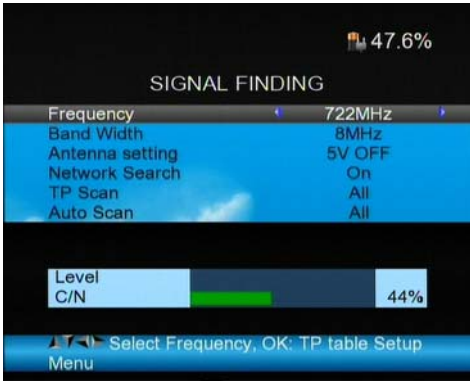

Figure3. SIGNAL FINDING Page
- (1) Press <MENU> button to enter main menu.
- (2) Press <Up/Down> button to select SIGNAL FINDING option.
- (3) Press <OK> button to enter SIGNAL FINDING page, see figure 3.
Press <FIND> button to enter SIGNAL FINDING page, see figure 3.